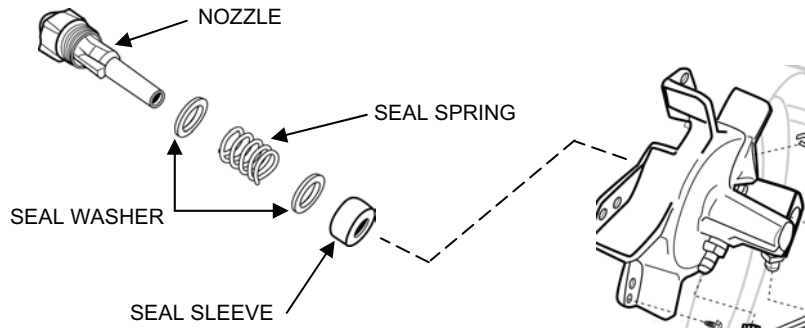

Figure 2. Diesel Heater Burner Head Nozzle.
2. Carefully remove the nozzle and its associated components (see Figure 2) from the burner head using a socket wrench. If the nozzle is damaged, replace the nozzle.
- a. Screw the nozzle into the burner head with its associated parts in the order shown in Figure 2.